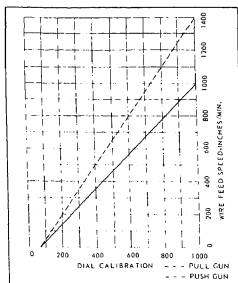

Fig. 10 Calibration Charts
- Check this output in inches-per-minute with optimum suggested by appropriate chart of Figure 10 for dial setting used in test.